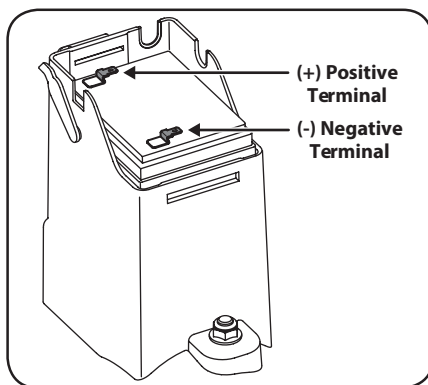

Figure 4-11
3. Replace with new battery. Connect the positive lead (red) to the positive side of the battery pack, then connect the negative lead (black) to the negative side. See Figure 4-11.